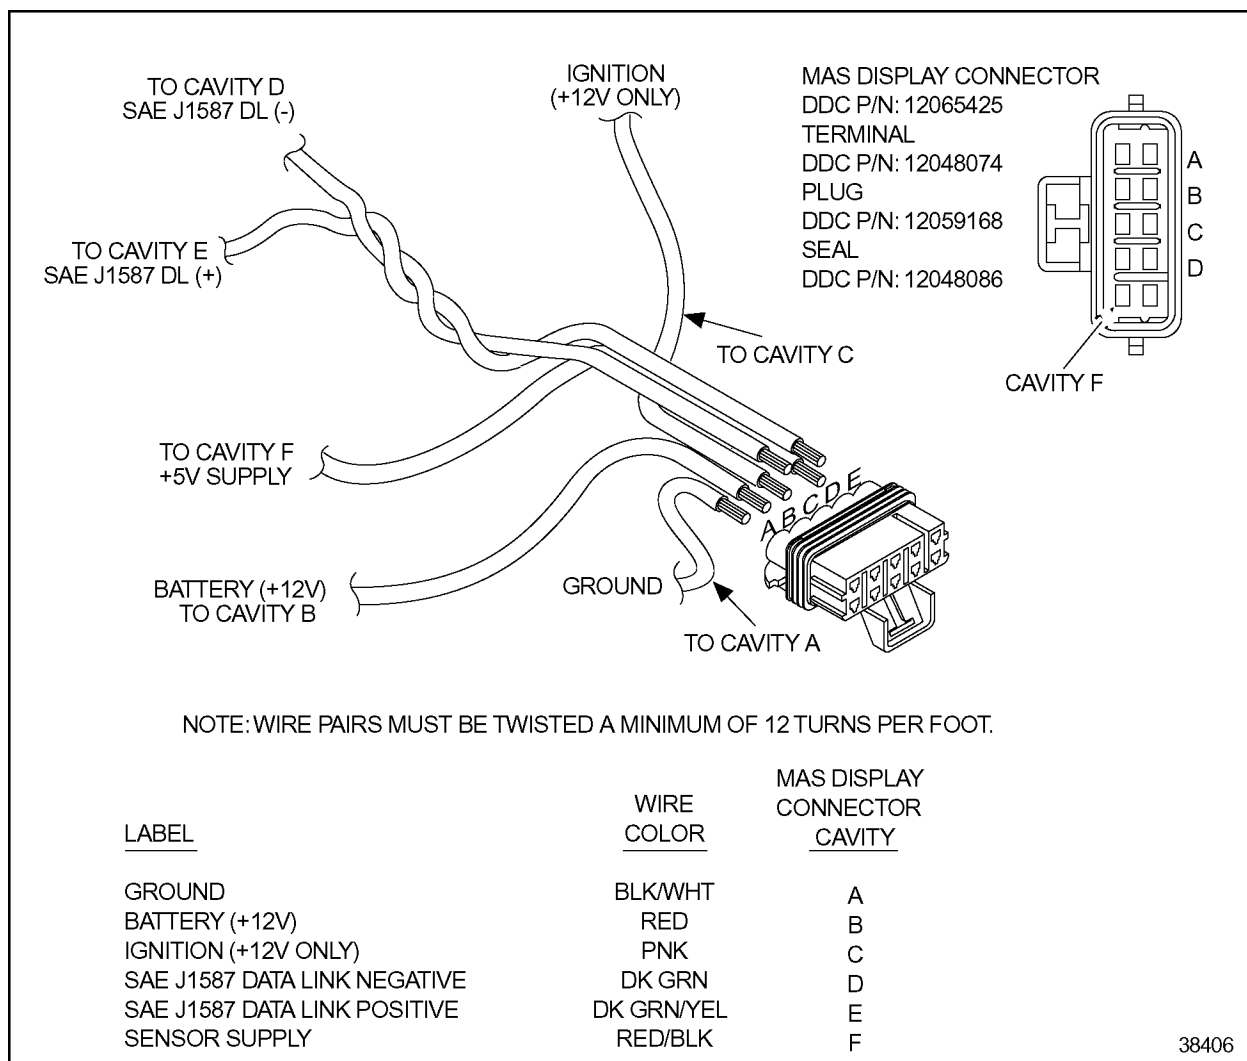

Figure 19-11 MAS Display Harness
4. Measure the voltage between cavity A ground and cavity C (V-15) ignition. See Figure 19-11.
5. Measure voltage between cavity A ground and cavity B, battery (+). See Figure 19-11.
2. Insert a jumper wire between cavity E (DL+) and cavity D (DL-). See Figure 19-11.